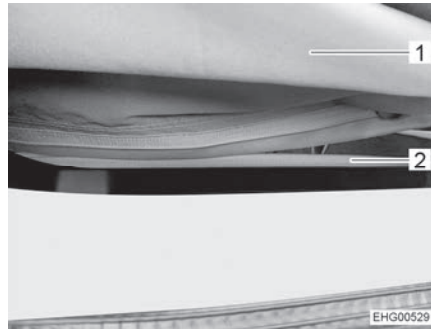

Fig. 59 Zip
- Fully open the zip (Fig. 59,2) on the underside of the bellows (Fig. 59,1).